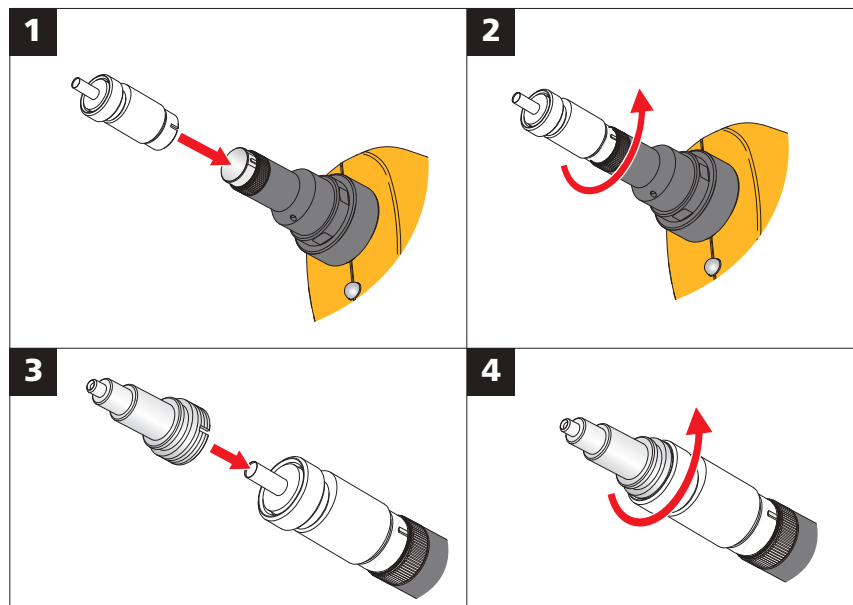

Figure 42. Single Fiber Tip Attachment
- 1 Align the slot in the single fiber adapter with the alignment pin on the end of the Probe. See Figure 42.